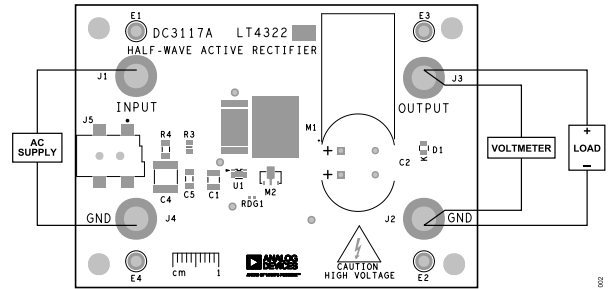

Figure 2. Measurement Equipment Setup
1. Connect an AC power supply to input and GND, as shown in Figure 2. Make sure that the output voltage of the supply is within the input voltage range of the DC3117A, as shown in Table 1. Verify that shorting resistor R1 has been removed before exceeding $20V_{AC(RMS)}$. Take care not to exceed 24V or 5A when using the barrel jack (J5). Use the turrets (E1 to E4) and banana jacks (J1 to J4) in all valid current/voltage ranges.
2. Connect a load and voltmeter across output and GND, as shown in Figure 2. Turn down the load current to zero. Put the voltmeter in DC volt measurement mode.